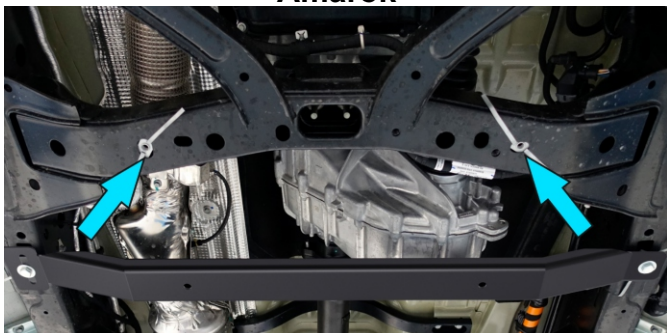

Fig. 5
3. Install M10 insert nuts (item F) as shown in fig.5,6. If RIVAL transmission skid plate is installed, loosen rear most bolts.